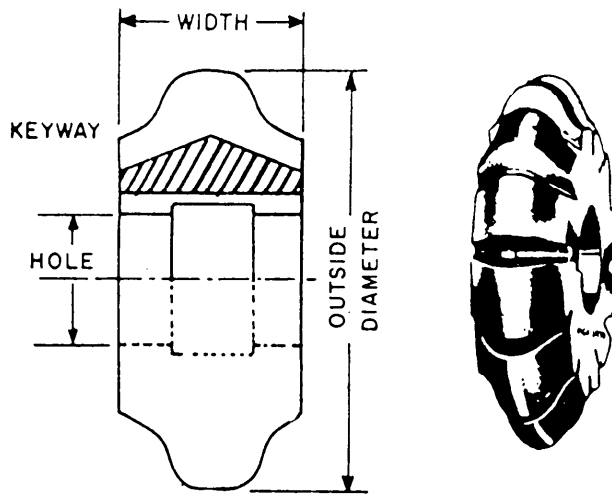

Figure 7-43.—Sprocket wheel cutter.
**SPROCKET WHEEL CUTTER.**—The sprocket wheel cutter (fig. 7-43) is a formed cutter that is used to mill teeth on sprocket wheels.